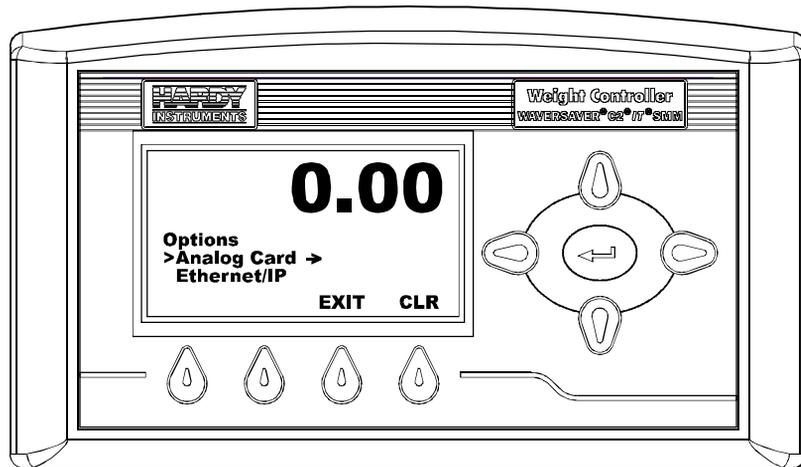

FIG. 146 OPTIONS MENU/SELECTING ANALOG CARD
Step 1. From the Options Menu, press the down arrow button until the cursor is in front of “Analog Card”. (See Fig. 146)